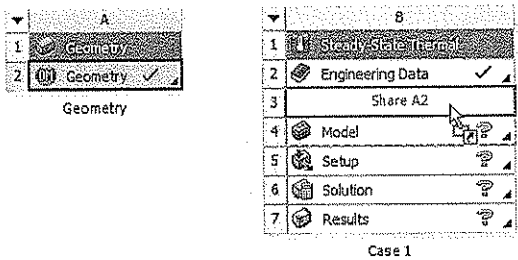

Figure 11-4 The **Geometry** component system and the **Case 1** analysis system
- 7. Rename the **Steady-State Thermal** analysis system to **Case 1**, refer to Figure 11-4.
- 8. Drag the **Geometry** cell from the **Geometry** component system into the **Geometry** cell of the **Case 1** analysis system, refer to Figure 11-4; the geometry is shared.